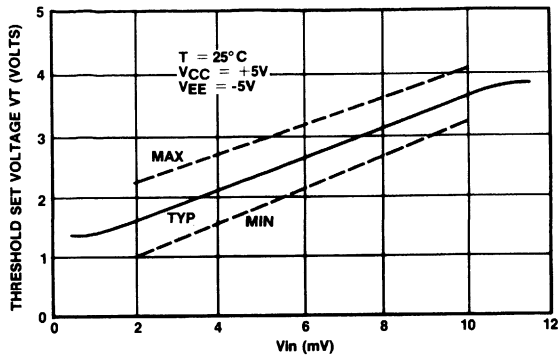

Fig.8 Minimum threshold set voltage ( $V_t$ ) vs input signal ( $V_{in}$ )
The signal is amplified and then compared with the threshold voltage set by applying an external voltage to Pin 16 (VT). The relationship between the actual threshold and the applied voltage is shown in Fig.8. The comparator decision is strobed into the edge triggered flip-flop on the positive edge of the strobe signal and fed into a TTL compatible tristate output stage.